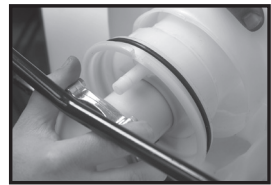

Figure 3a
7. Once freed the entire pump assembly can be removed by maneuvering it through the base frame (fig 3a & 3b). Pump shaft may be removed to ease the disassembly of the pump.